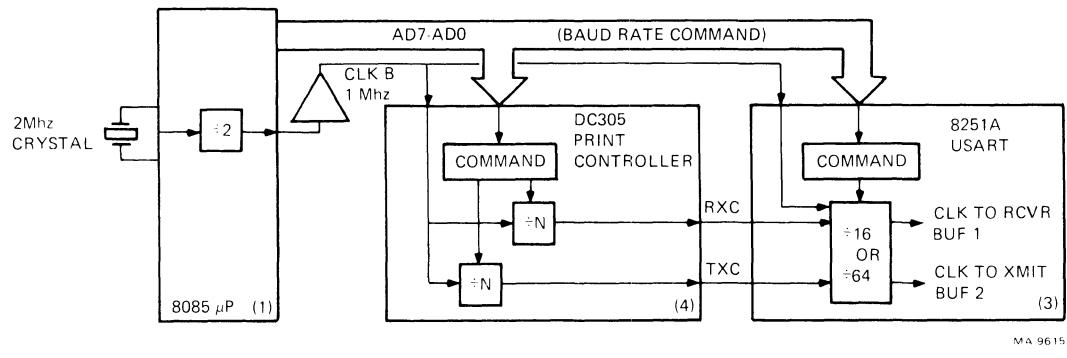

Figure 5-6 Creation of Baud Rate Clocks
**5.4.2.3 Baud Rate Clocks** – The DECwriter IV series terminals may be programmed or set-up to perform serial I/O communication at many different transmission rates, ranging from 50 to 9600 baud (bits per second) depending upon the terminal type. Figure 5-6 shows the hardware (logic) that creates the baud rate clocks used to shift the serial data stream in or out of the USART.